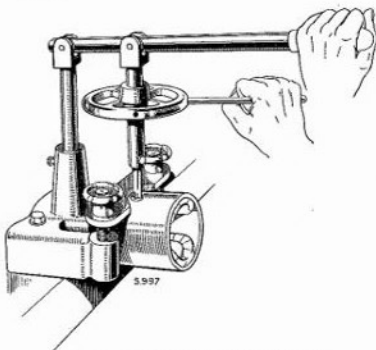

Fig. N.10. Unscrewing the pole retaining screws
3. In either case, the field coils should be renewed, or a replacement dynamo fitted. To renew the field coils the following procedure should be carried out using a wheel-operated screwdriver (see Fig. N.10).
- Unscrew the two pole shoe retaining screws by means of the wheel-operated screwdriver (see Fig. N.10).